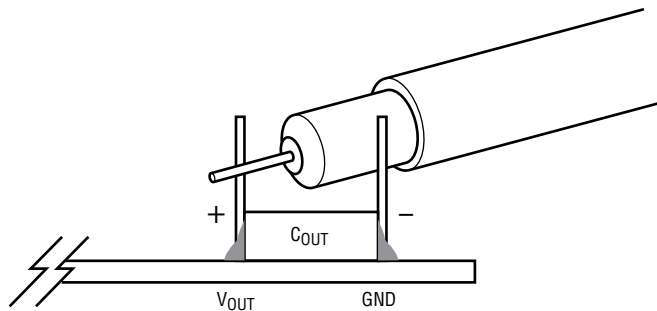

Figure 2. Scope Probe Placements for Measuring Input or Output Ripple
- Once the input and output voltages are properly established adjust the loads within the operating range (0A to 1A max) and observe the output voltage regulations, output ripple voltages, switch node wave-forms and other parameters. Refer to Figure 2 for proper input/output voltage ripple measurement.
**Note 1:** To measure the input/output voltage ripple properly, do not use the long ground lead on the oscilloscope probe. See Figure 2 for the proper scope probe technique. Short, stiff leads need to be soldered to the (+) and (-) terminals of an output capacitor. The probe's ground ring needs to touch the (-) lead and the probe tip needs to touch the (+) lead.